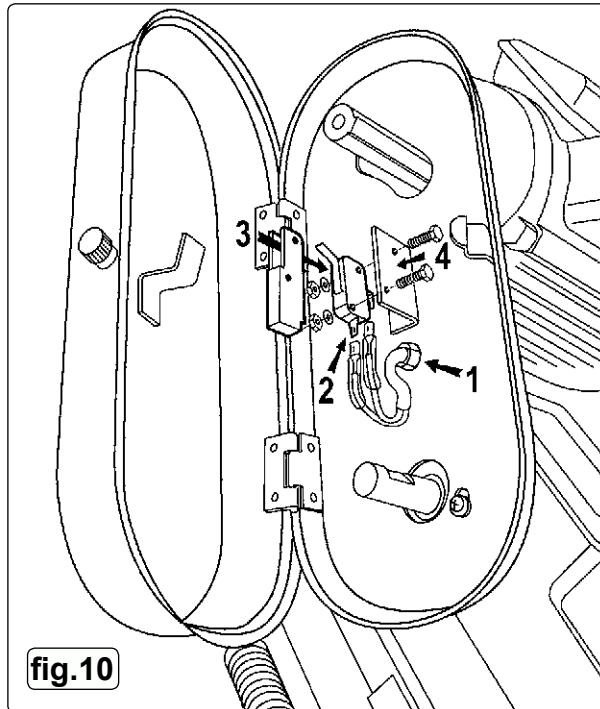

fig.10
4.4. Fit the microswitch Refer to the numbers in fig.10